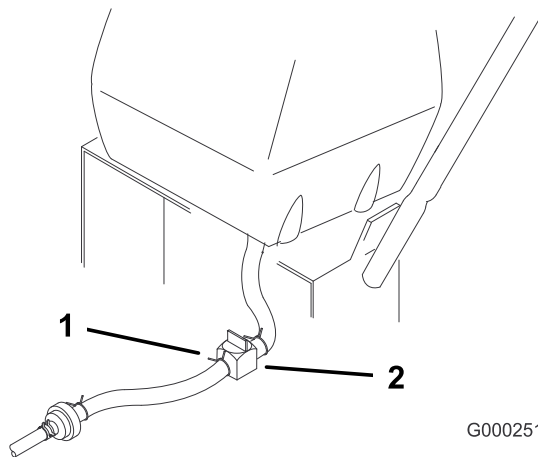

Figure 31
2. Close the fuel shut off valve at the fuel tank (Figure 31).
3. Squeeze the ends of the hose clamp together and slide it up the fuel line away from fuel filter (Figure 31).
4. Pull the fuel line off the fuel filter (Figure 31). Open the fuel shut off valve and allow the gasoline to drain into a gas can or drain pan.
2. Close fuel shut off valve at the fuel tank (Figure 31).